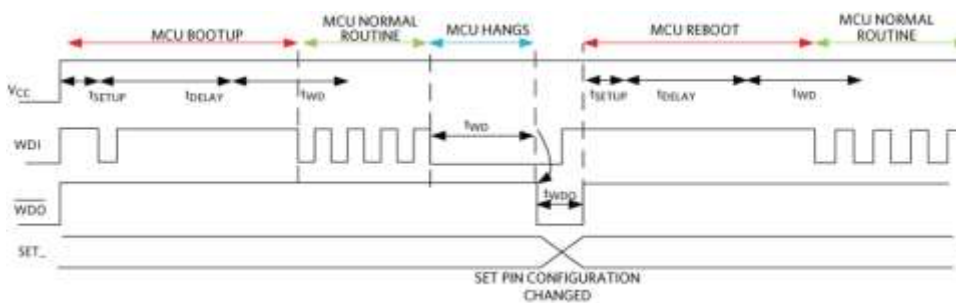
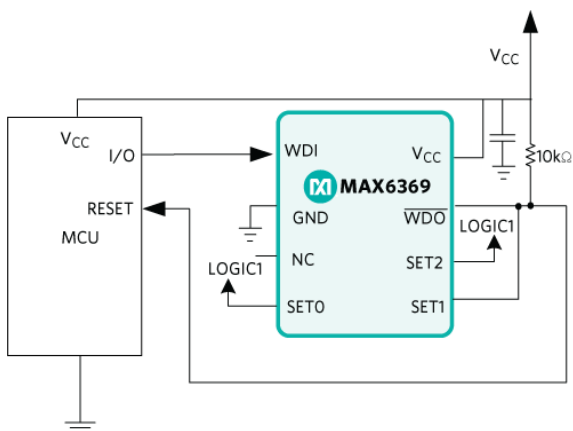

Figure 4. Changing the SET pin configuration when WDO is asserted.
Figure 5. Application circuit to disable the watchdog timer during the reboot.
The MAX6369–MAX6374 provides the 3-set pin to achieve the desired performance. The MAX6369–MAX6374 allows the user to change the timing setting dynamically. If the set pin configuration is changed after the WDO is asserted, the previous setting is allowed to finish. The characteristics of the new setting are assumed after the WDO is deasserted, and the MAX6369–MAX6374 enters into a new startup phase. **Figure 4** is the timing diagram of MAX6369–MAX6374, where the set pin configuration is changed after the WDO is asserted.
**Figure 5** shows the application circuit diagram used to get the timing diagram in **Figure 4**. The SET1 logic pin is connected to the WDO pin in the following schematic.
**Figure 7** shows the MAX6369 with the circuit connection in Figure 5, where SET0 =  $V_{\text{CC}}$  (logic 1), SET1 = WDO, and SET2 =  $V_{\text{CC}}$  (logic 1). The device starts the new startup phase every time the MAX6369 detects a watchdog fault.